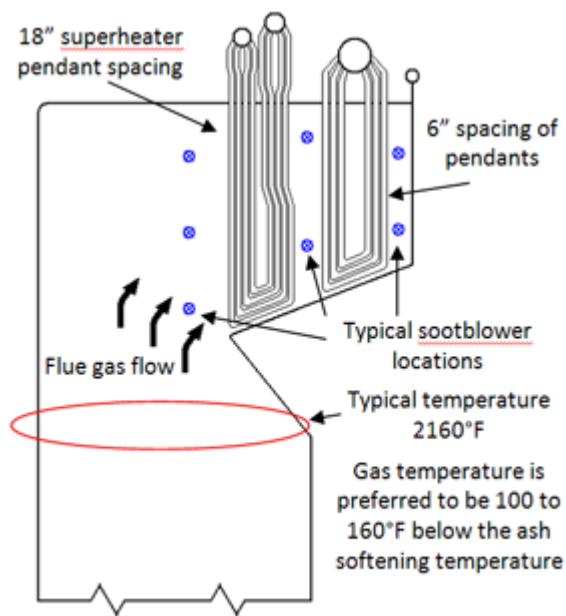

Figure 1
- **Ash Fusion Temperatures**– should be measured in a reducing atmosphere. The ash softening temperature of a fuel fired should be 100-150°F below the flue gas peak temperatures entering closer spacing than 6” centers of superheater or reheater pendants. Please note Figure 1.